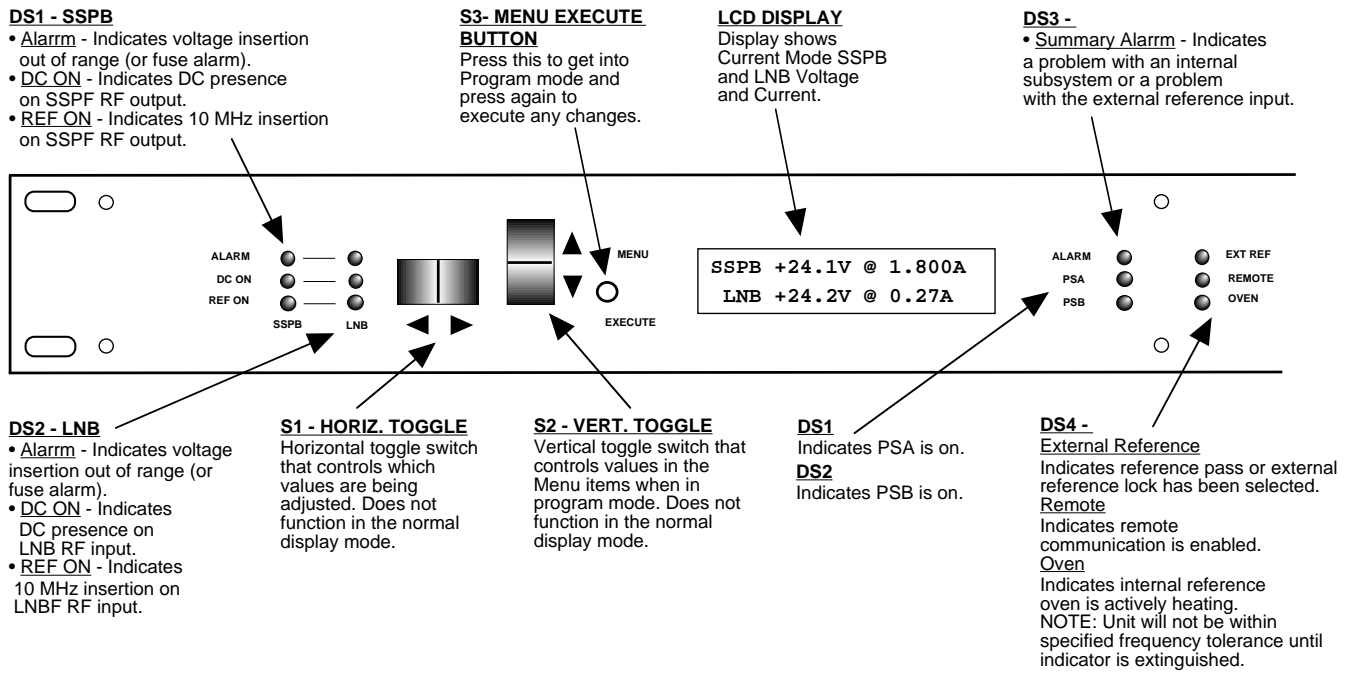
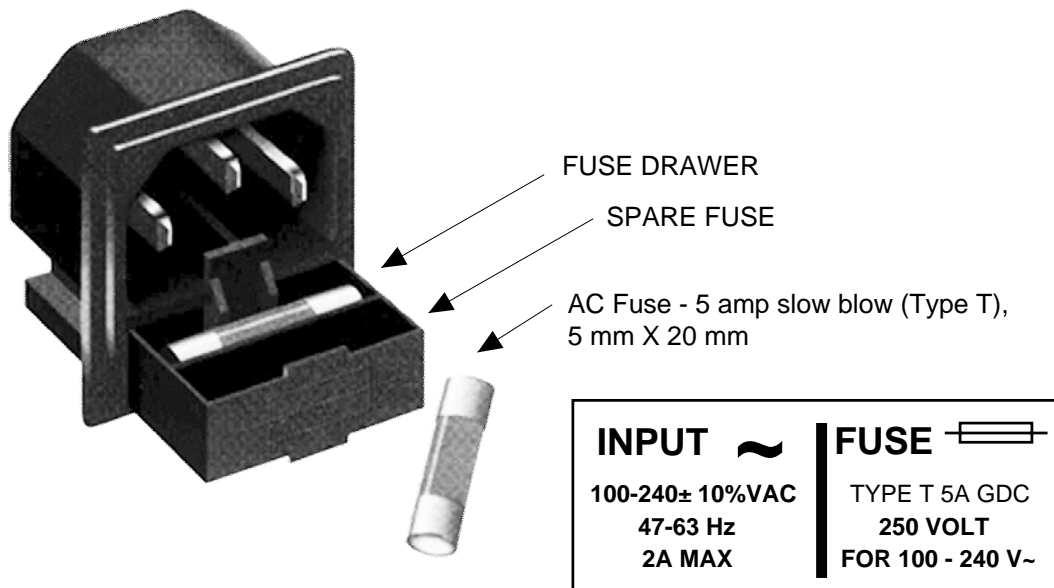

FIGURE 2.2 2099-2424 Front Panel Controls and Indicators
FIGURE 2.3 Fuse Location and Spare Fuse
3. Be sure DS1 and DS2 LEDs (green, POWER) are on (Figure 2.2).
6. (option -E only) Choose one of the five (5) modes (Internal, Ext Pass, Ext Pass Auto, Ext Lock, or Ext Lock Auto) in which to operate the unit.
8. **PS-A** - The fuse is a 5 mm X 20 mm, 2 amp slow blow (Type T) and is inserted in the far slot in the drawer below the AC input as shown in Figure 2.3. There is a spare fuse in the near slot. If a fuse continues to open, the power supply is most likely defective.
9. **PS-B** - The fuse is a 5 mm x 20 mm, 5 amp slow blow (Type T) and is inserted in the far slot in the drawer below the AC input as shown in Figure 2.3. There is a spare fuse in the near slot. If a fuse continues to open, the power supply is most likely defective.
Alarm indications appear on the LED (see Figure 2.2).